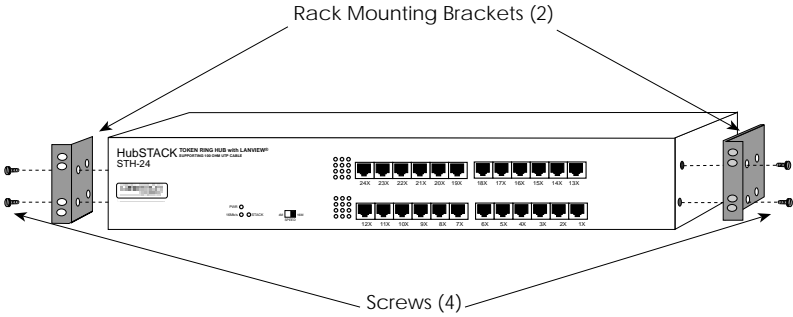

Figure 3-3. Installing the Rack-Mount Brackets
2. Using the four cover screws removed in step 1, attach the rack mounting brackets to each side of the STH as shown in Figure 3-3.